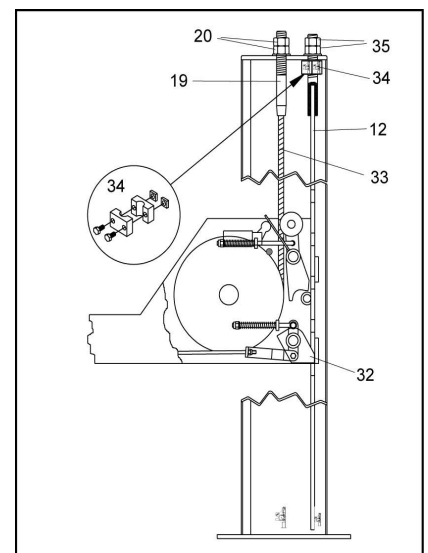

Fig.54 Pre-adjustment of lift cables
Position the lift so that the four wedges (32) in fig.54 are firmly seated in the slots on the safety rods (12). Adjust the nuts (20) on the terminal blocks (19) of the lift cables (33) to level the platforms (7 and 8) so that the entire surface of the movable section of the lift is perfectly level. Turning the upper nuts (35) of the safety rods, adjust so that the distance between the wedges (31 and 32) and the slots in the safety rods (12) is identical on all four posts (1-2-3-4). Tighten the upper part with the lock nut (35). Lock the safety rods (12) with the collar (34) fixing it under the top plate of the column.